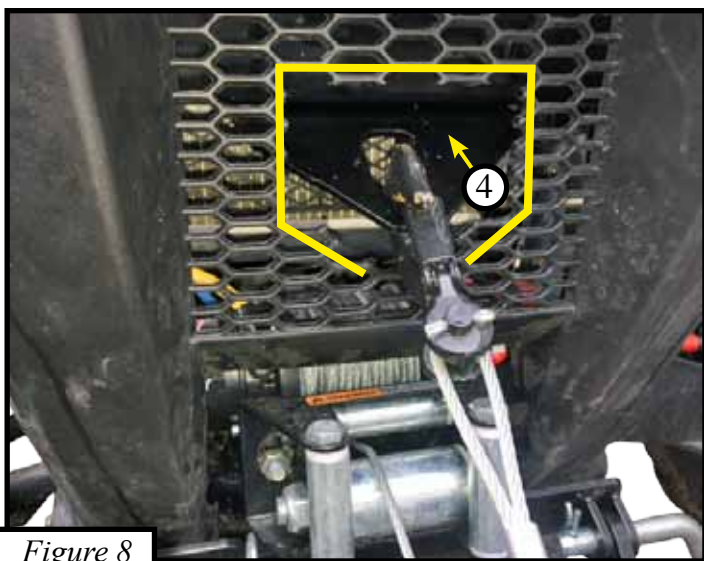

Figure 8
*Note: If you choose to reinstall the bumper you will need to cut a small hole out of the plastic grill to make room for the hook bracket. Shown in Figure 8. You do have the option to leave it off for the winter season.*